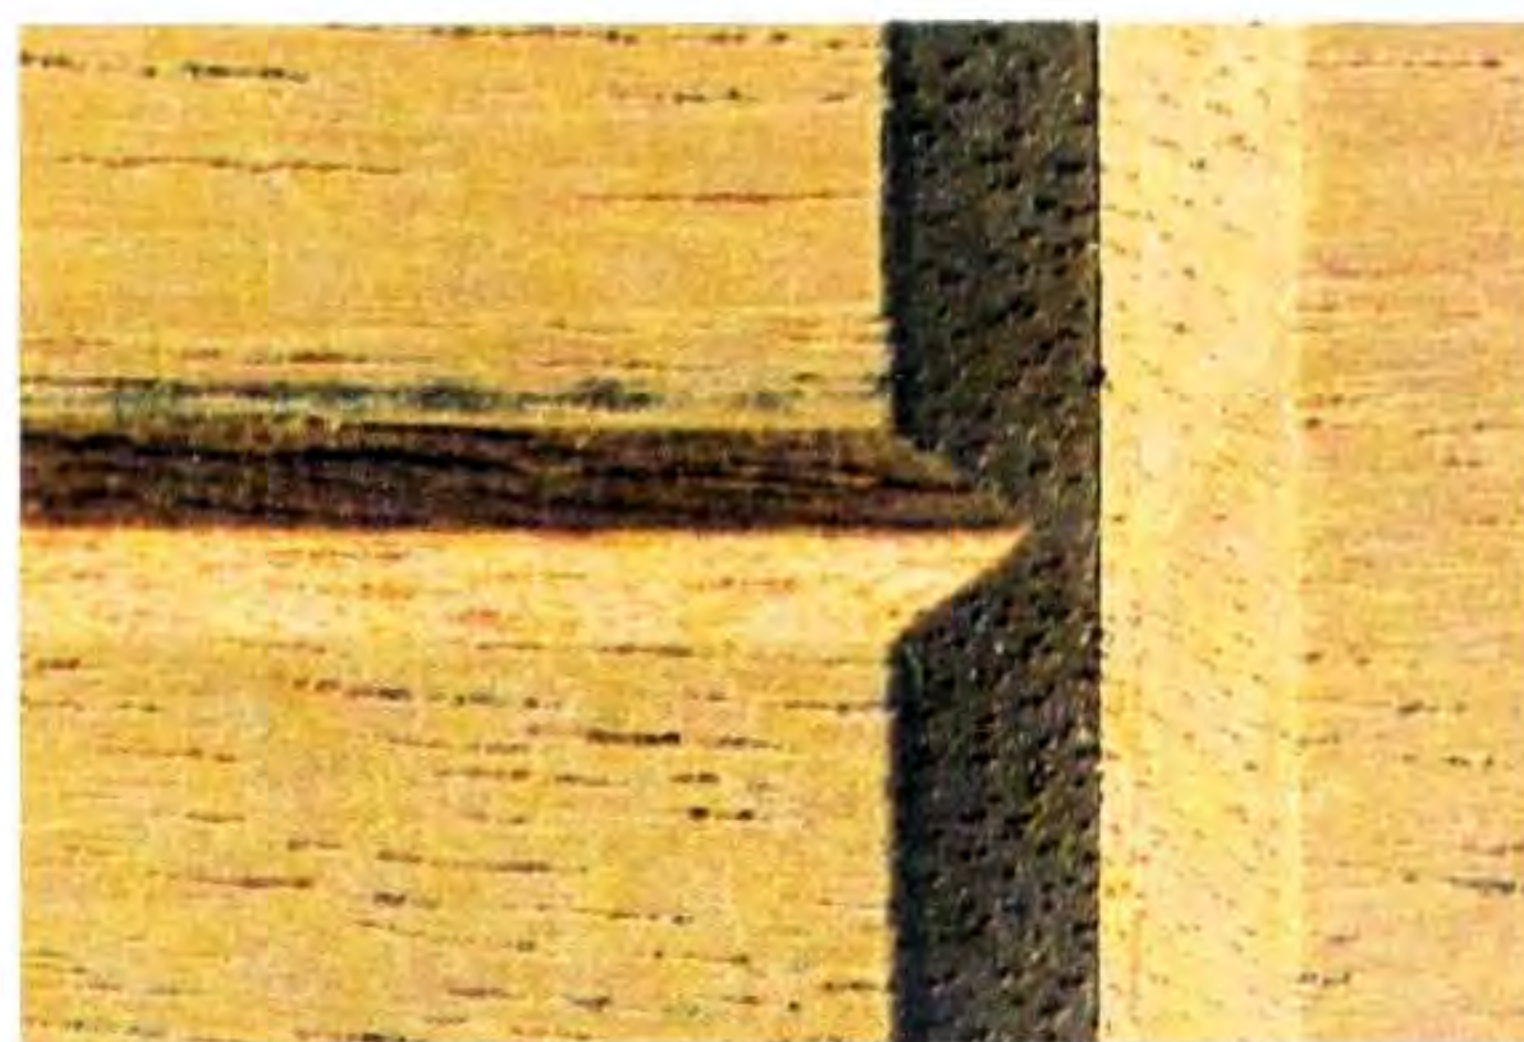

Fig 5.34 Detail of the junction of the vertical stem and the crossbar.
- 2 Add the crossbar using the 30mm (1¹/₈in) chisel, starting with the central stop cut. The width of the chisel should pass into the trench at either side. Then make two angled cuts, leaving a little waste to pare back cleanly to the line. As the horizontal bar is half the width of the vertical one, its root should emerge half way down the vertical wall (see Fig 5.34).